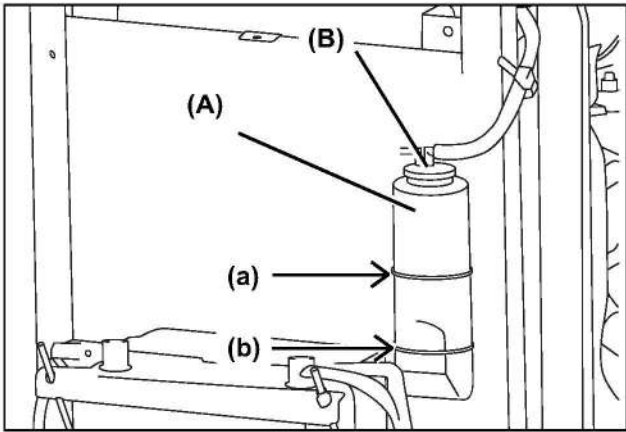

Fig 14-13
6. Check the coolant level of the reserve tank (Fig 14-13, A):
- If the engine is warm, the coolant level must be between the full line (Fig 14-13, a) and the low line (Fig 14-13, b).
- (A) Reserve tank
- (B) Reserve tank cap
7. When necessary, remove the reserve tank cap (Fig 14-13, B) and add coolant.